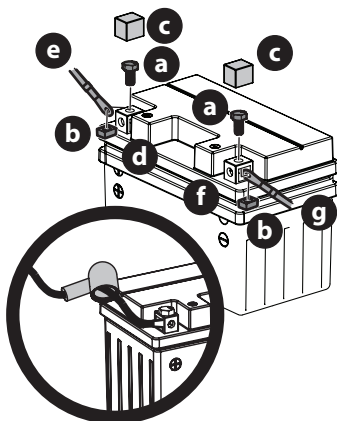

Fig. 5
NOTE: The positive battery terminal is marked POS. (+) (d). The negative battery terminal is marked NEG. (-) (f) (Fig. 5).
- Remove the factory installed hex screws (a) and square nuts (b) located either on the end of the wiring harness or in the bag with this manual. Retain the hardware for later instructions (Fig. 5).
- Remove the plastic cover (c), if present, from the positive battery terminal (d) and attach the red cable (e) to the positive battery terminal (d) with one of the hex screws (a) and square nuts (b), from Step 2. Use a Philips screw driver (Fig. 5).
- Position the red rubber boot over the positive battery terminal to help protect it from corrosion (Fig. 5, inset).
- Remove the plastic cover (c), if present, from the negative battery terminal (f) and attach the black cable (g) to the negative battery terminal (f) with the remaining hex screw (a) and square nut (b) (Fig. 5).